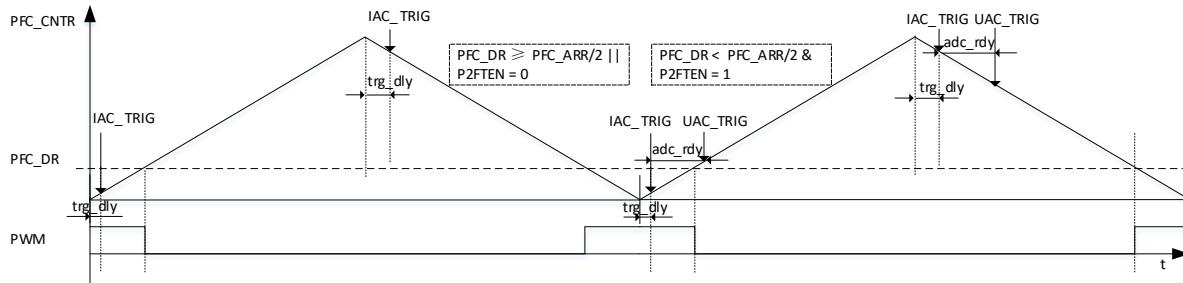

Figure 12-6 Diagram of PWM Output and IAC/UAC Sampling
- The sampling point is determined according to PFC_CR2[P2FTEN] and PFC_DR (as shown in Figure 12-6). If PFC_CR2[P2FTEN] = 0 and $PFC_DR < PFC_ARR/2$, sampling is triggered when PFC_CNTR reaches the underflow point. If PFC_CR2[P2FTEN] = 1 or $PFC_DR \geq PFC_ARR/2$, sampling is triggered when PFC_CNTR reaches the overflow point. The time delay for sampling is configurable by PFC_TRGDLY. The overflow point can be set at $PFC_TRGDLY*8$, and the underflow point at $(PFC_ARR - PFC_TRGDLY*8)$.